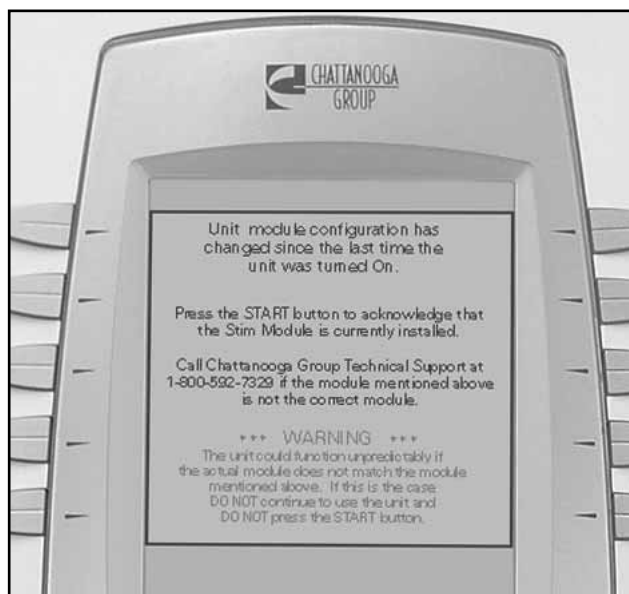

FIGURE 6.11
14. Turn the System On using the On/Off Switch. The system will automatically recognize the added module and display a configuration change message. See Figure 6.11.